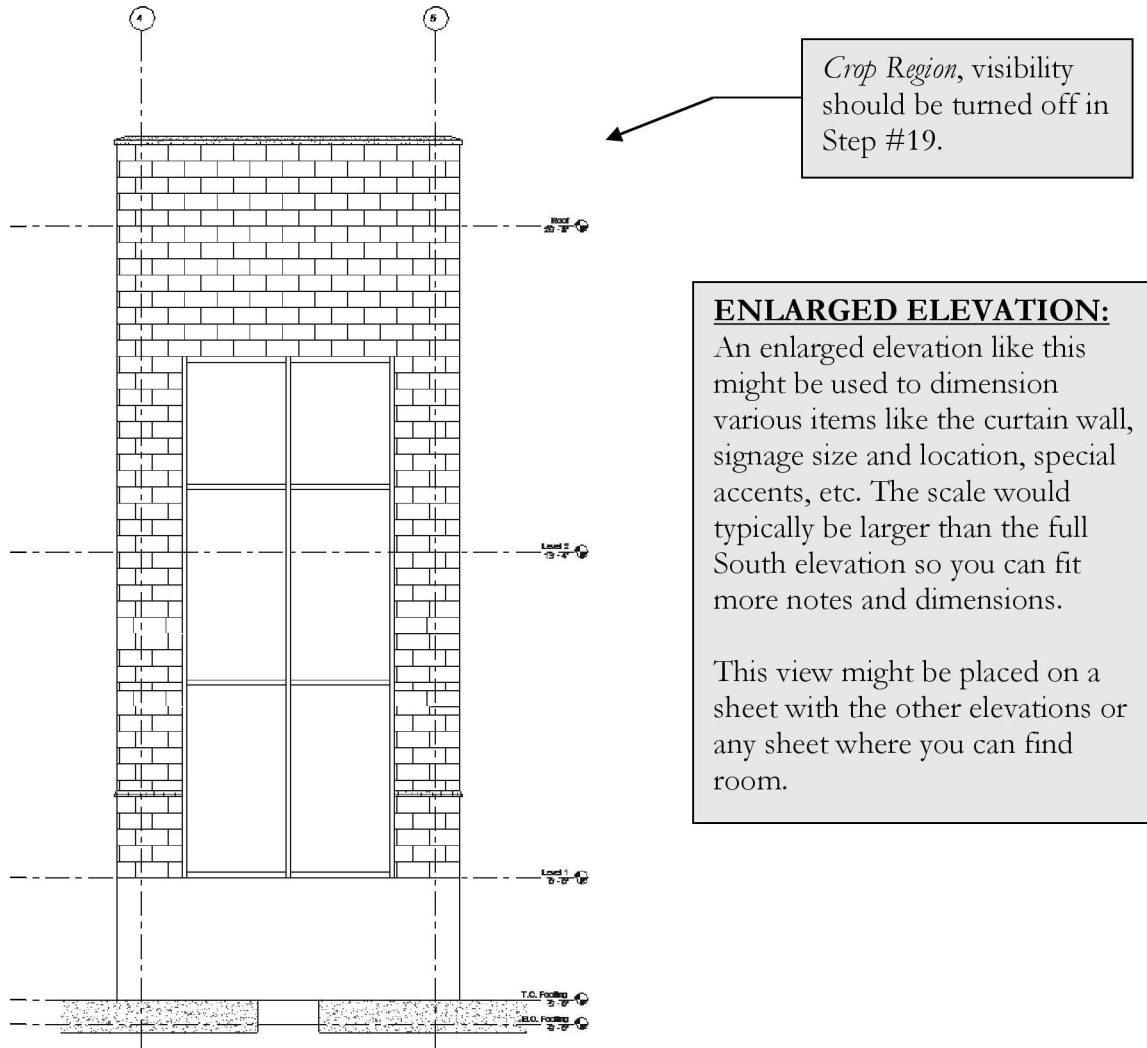

FIGURE 10-1.10 Main Entry wall elevation
17. Switch to **South – Main Entry** view to see the enlarged elevation you are setting up (Figure 10-1.10).